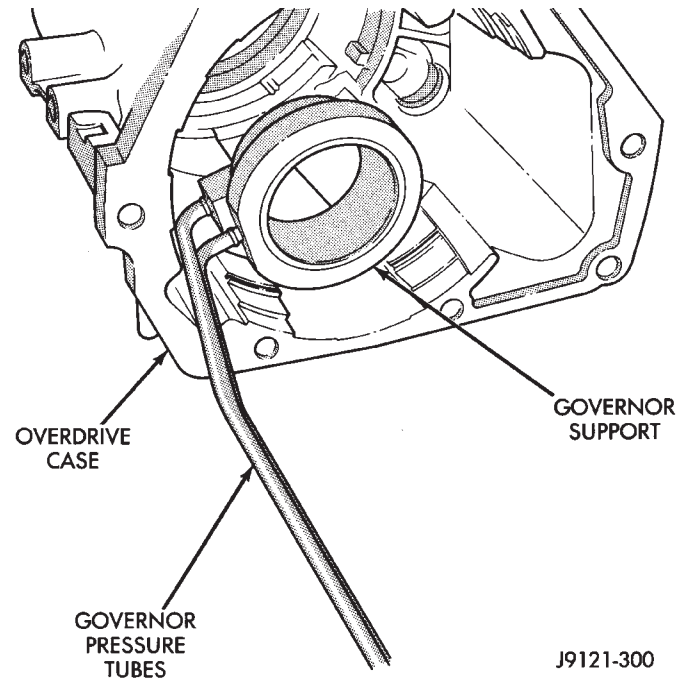

Fig. 13 Removing Governor Support And Tube Assembly
- (13) Remove governor support and tube assembly from case (Fig. 13).